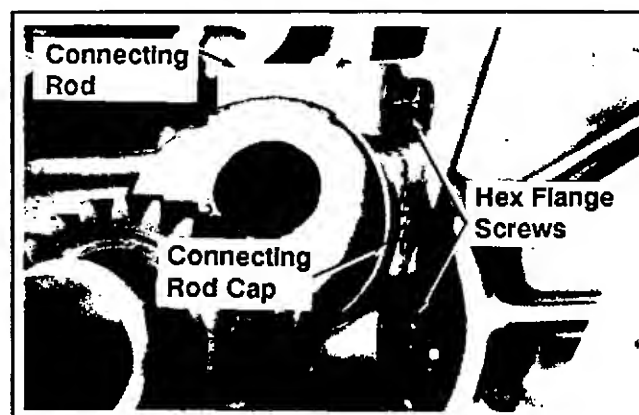

Figure 9-30. Removing Connecting Rod And Piston.
1. Remove the two hex. flange screws and connecting rod cap. See Figure 9-30.